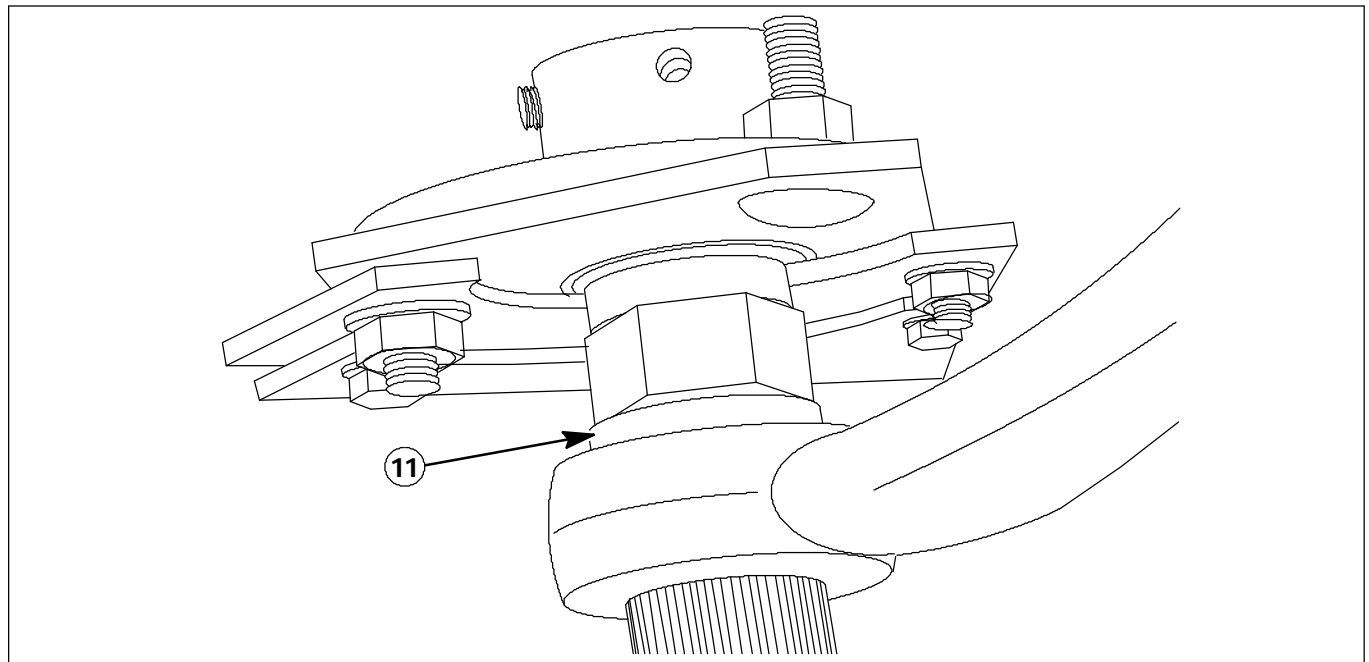

FIG. 2 Mounting Rotated Bearing and Existing Parts
4. Reassemble new steering gear assembly with new washer (11). Tighten to 129-168 lbs. of torque. (Refer to FIG. 2)